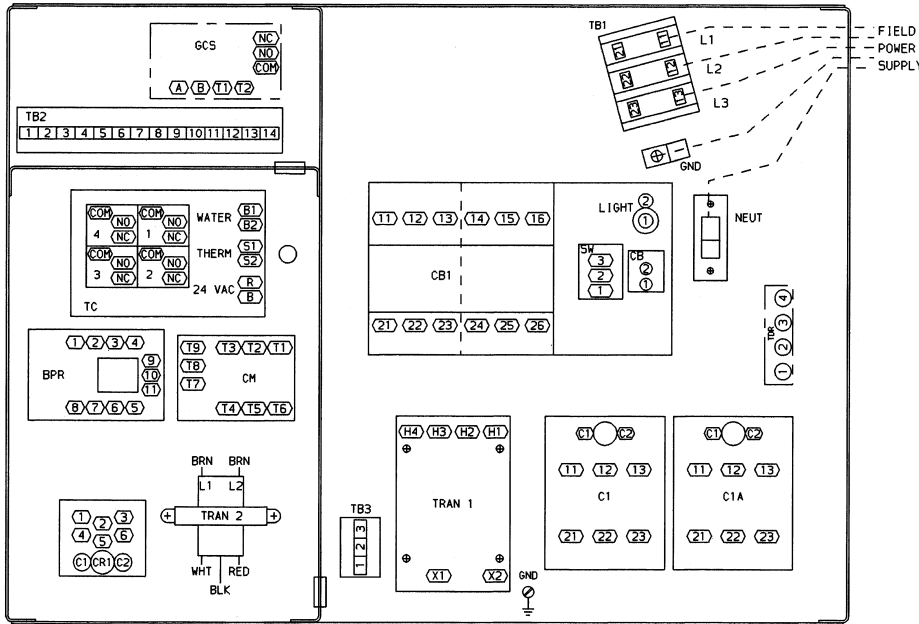

Fig. 1 — 30HW Control Box Component Arrangement (Temperature Controller)
1. Mount compressor ground current sensing board (Table 1, Item 1) in control box. See Fig. 1 for location in control box. Use 4 screws provided (Table 1, Item 5) to mount board. Mounting holes are pre-drilled.